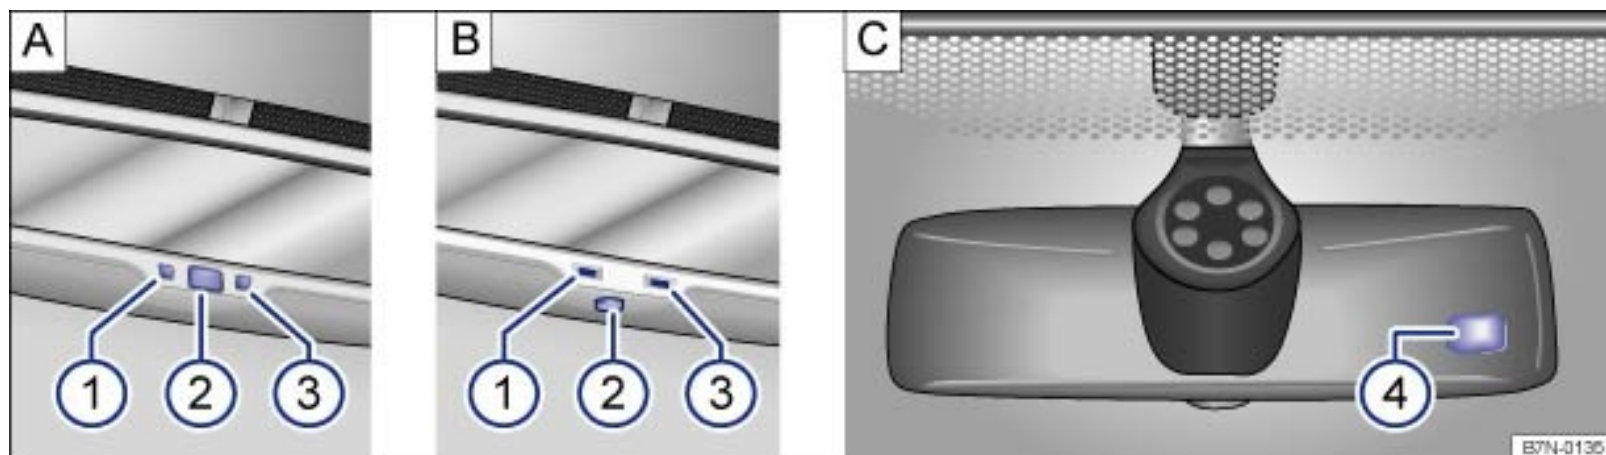

Fig. 94 Self-dimming rearview mirror (if equipped).
Key to → Fig. 94:
- ② Switch
- ③ Sensor for recognizing the entry of light from the rear
- ④ Sensor for registering light from the front
The self-dimming feature can be switched on and off with the switch on the inside mirror → Fig. 94 A ② or → Fig. 94 B ②. When self-dimming is activated, the indicator light ① is on.
- One sensor on the side facing the interior to measure light from the rear of the vehicle → Fig. 94 A ③ or → Fig. 94 B ③.
- One sensor on the side facing the windshield to measure light from the front of the vehicle → Fig. 94 C ④.